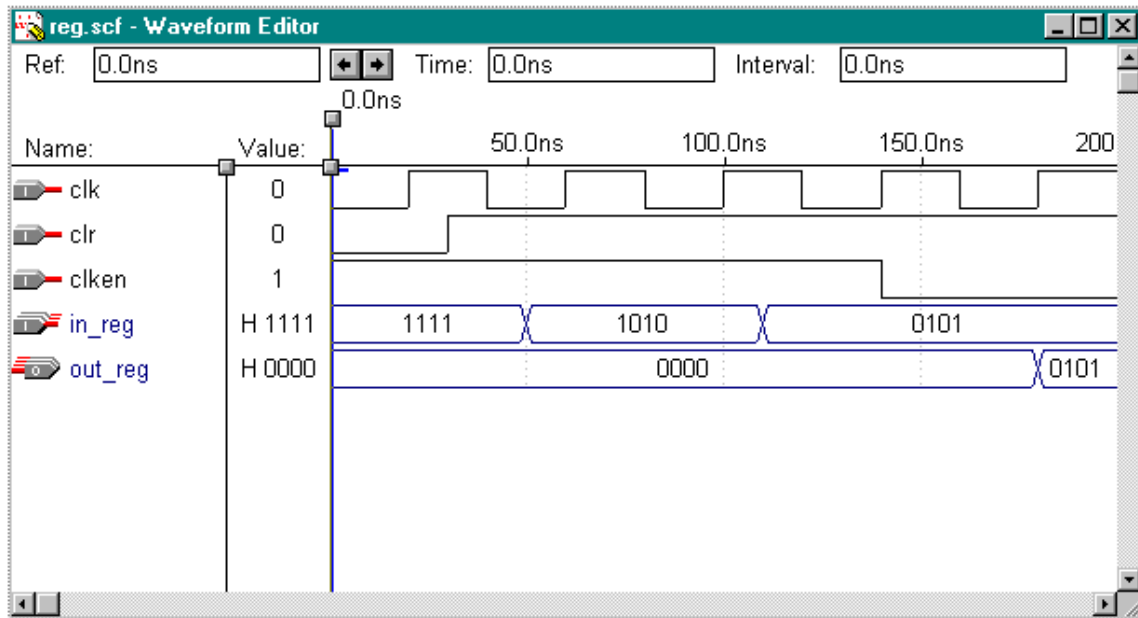

Figure 5-2.
5. Check to see if you get the same results shown in Figure 5-2.